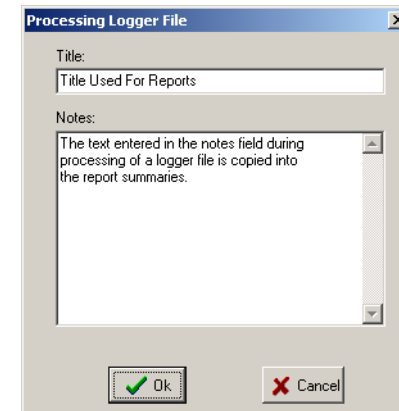

Fig. 3
- The following Dialog Box (Fig. 3) will appear with default Title and Notes. They are not required but will be displayed in the Reports generated by **PowerView**. Enter any desired title and comments and notes then select ‘OK’.